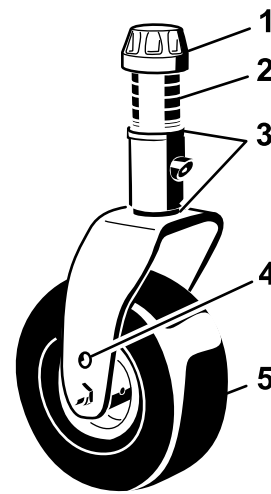

Figure 96
1. Remove the tensioning cap from the castor spindle shaft and slide the spindle out of the castor arm (Figure 96). Reposition the shims, as required, to raise or lower the castor wheel until the cutting unit has the correct pitch.